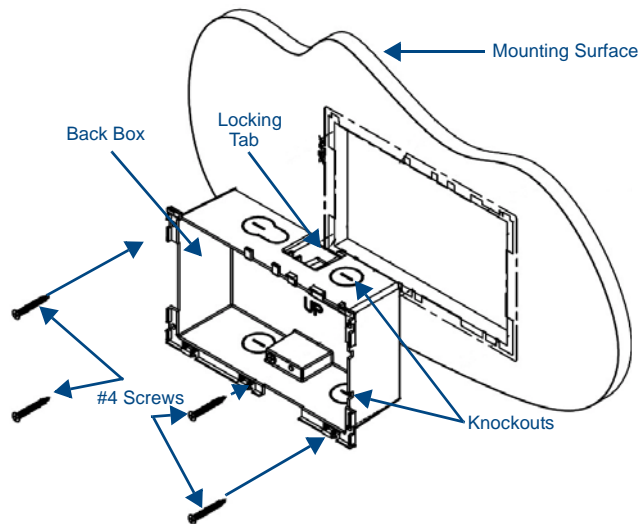

FIG. 4 MXD-700 Back Box Installation (Landscape)
The back box (FIG. 4) is designed to attach the panel to most standard wall and solid surface materials. This back box has two locking tabs (one on top and one on bottom) to help lock the back box to the wall. These locking tabs are only extended AFTER the back box is inserted into the wall. Using the locking tabs is highly recommended for standard mounting surfaces such as walls. For thin walls and solid surfaces, use #4 mounting screws (not included).
2. Remove the back box knockouts (FIG. 4) and thread the incoming wiring through the knockout holes. To facilitate installation, thread the Ethernet cable through a bottom knockout (Landscape) or a right-side knockout (Portrait), and the USB cable through a top knockout (Landscape) or left knockout (Portrait).